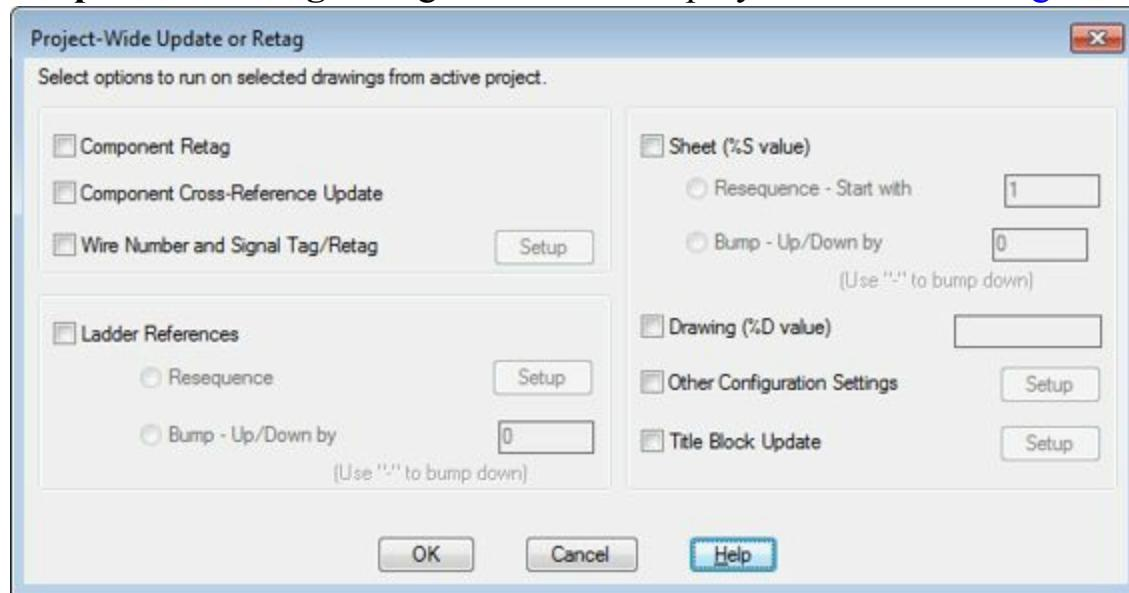

Figure-25. Project Wide Update or Retag
- Click on the Project Wide Update/Retag button from the Project Manager. The Project-Wide Update or Retag dialog box will be displayed as shown in Figure-25.